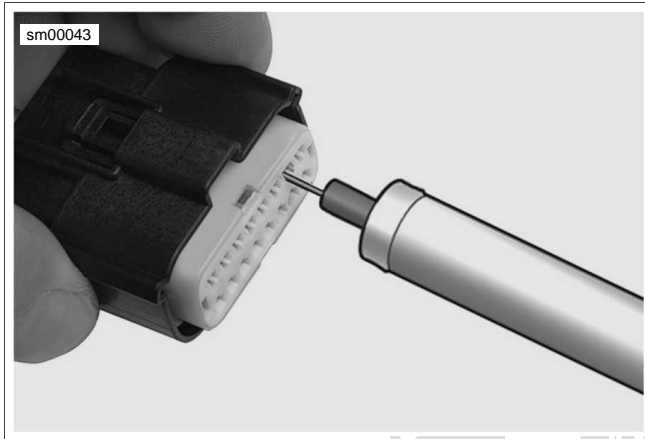

Figure A-28. Molex Connector: Terminal Remover (HD-48114)
2. See Figure A-28. Insert MOLEX ELECTRICAL CONNECTOR TERMINAL REMOVER (Part No. HD-48114) into the pin hole next to the terminal until the tool bottoms.